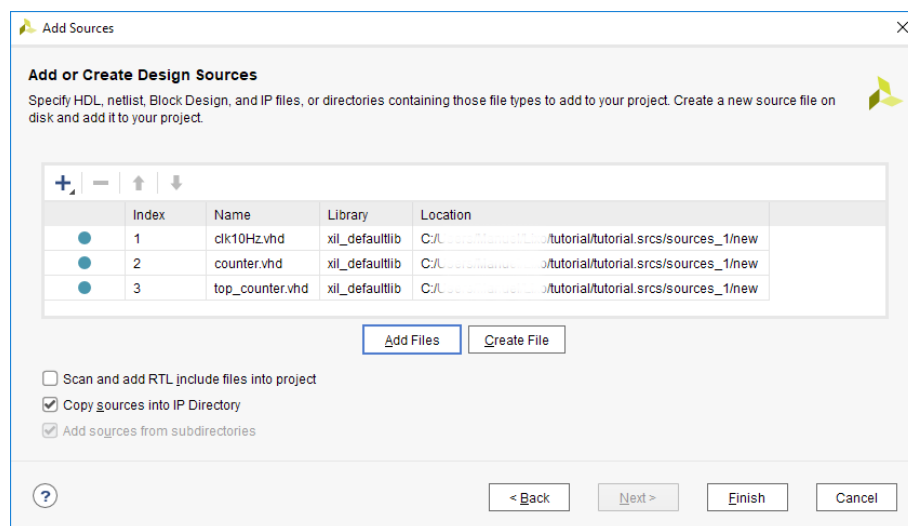

Figure 7
23. Make sure to check the **Copy sources into IP directory** checkbox is checked, to create copies of the files inside the IP repository (otherwise, any changes in the files will also affect the previous project) (Figure 7)